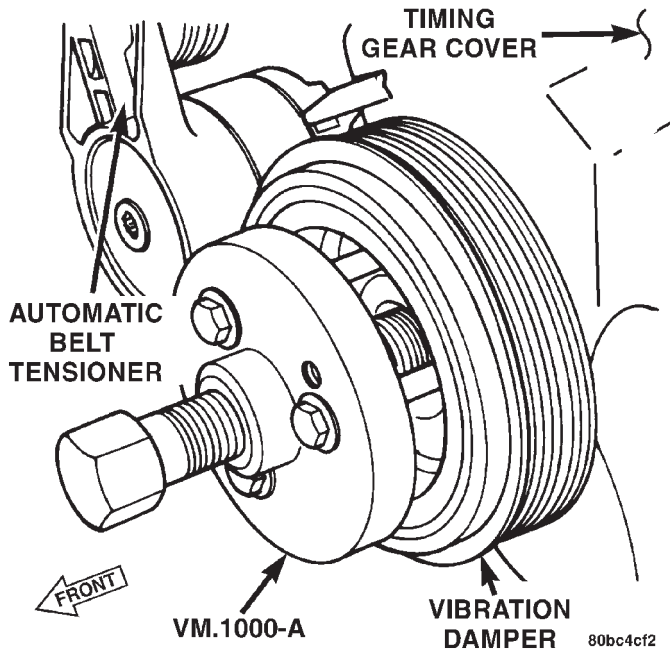

Fig. 73 VM.1000-A
- (1) Disconnect the negative battery cable.
- (2) Remove the fan and set fan inside fan shroud then remove fan shroud and fan as an assembly.
- (3) Remove the accessory drive belt. Refer to Group 7, Cooling System for procedure.
- (4) Remove the vibration damper nut.
- (5) Install special tool VM.1000-A to remove vibration damper (Fig. 73).